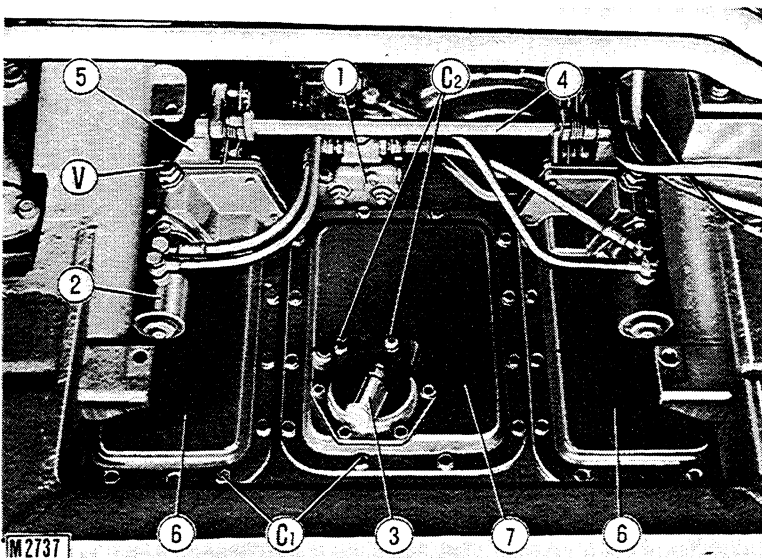

Fig. 1 - Rear transmission housing covers.
- take off central transmission housing cover (7, fig. 1), along with inside pipes interfering with removal;